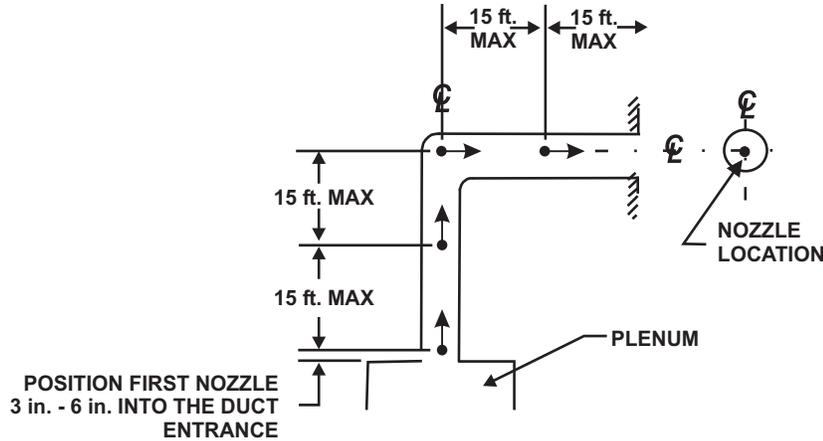

Figure 3-9. Exhaust-Duct Parameters (1)
When exhaust-duct protection is provided using one Duct/Plenum nozzle off an DC-75 (BC) cylinder, the nozzle coverage provided is for the first 15 feet (4572 mm) of straight unobstructed duct. Supplemental coverage of the exhaust duct must be provided for exhaust ducts greater than 15 feet (4572 mm) in length or those with obstructions or changes in direction. The DC-25 (BC) or DC-50 (BC) shall be used for supplemental exhaust duct coverage. Refer to Figure 3-9 for nozzle placement in ducts with changes of direction.